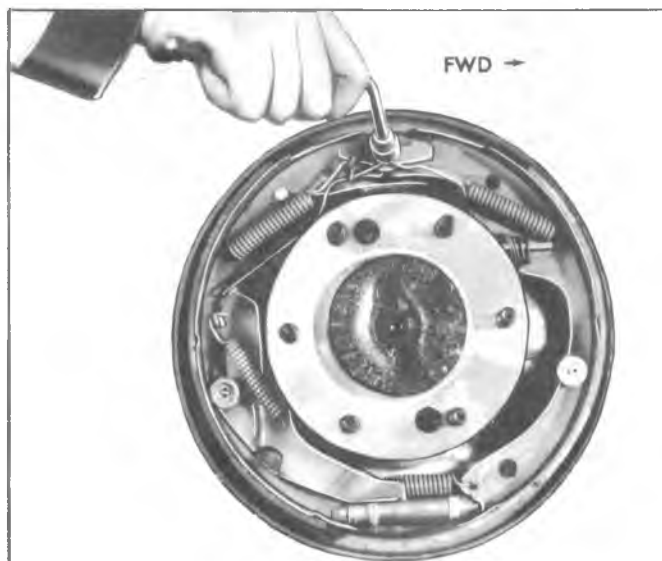

Fig. 21—Unhooking Pull Back Spring
4. Unhook brake shoe pull back springs from anchor pin and link end, using Tool J-8049 (fig. 21).